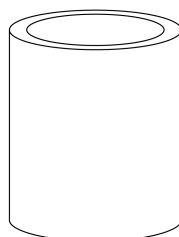

Figure 4: Qualcrimp Crimping Accessory
• **Qualcrimp Crimping Accessory (Figure 4)**